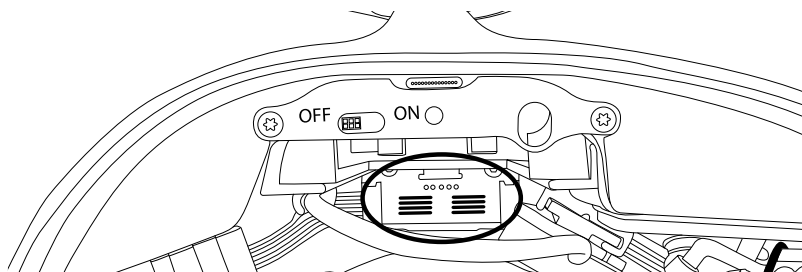

Figure 26
To correctly set the switches (fig. 26) follow the instructions given by the following images (fig. 25), bearing in mind that the switches control the relative bulkhead on the same side.
- Unscrew the screw that keeps the handle fixed; (*fig. 26*)